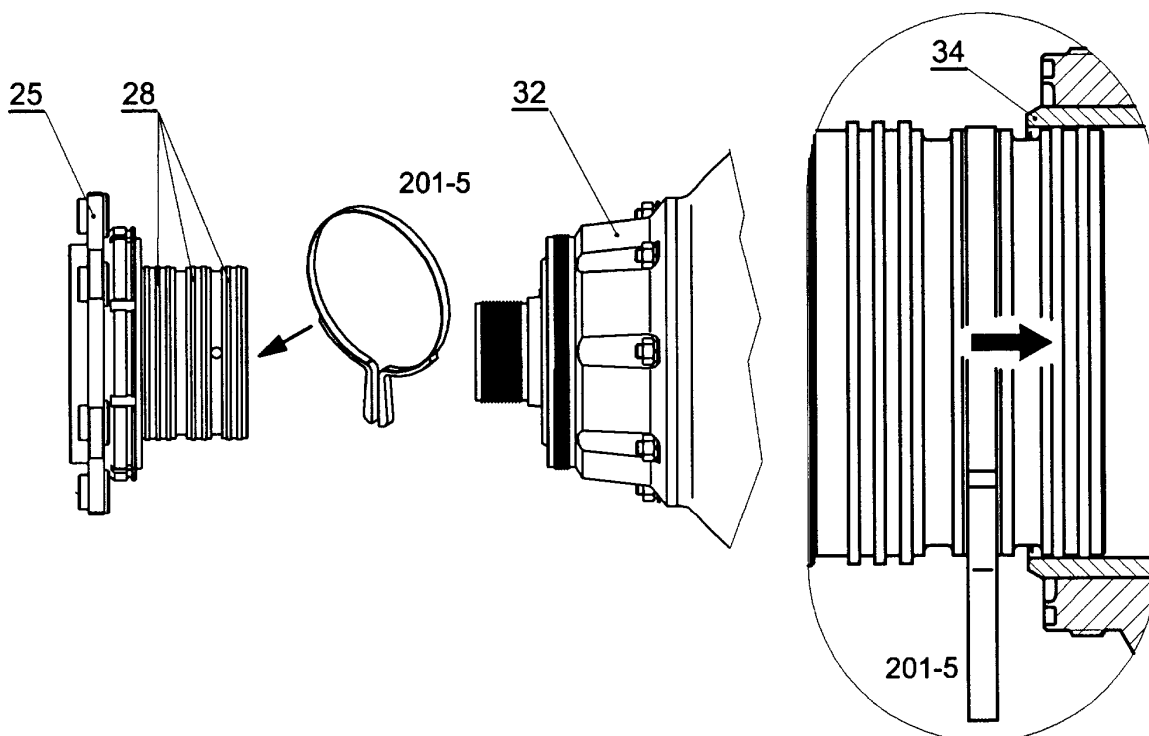

Fig.213 Rotor of P 7900.01distributor installation
- (7) Before installation rotor flange (25) check if the wire (37) sliding nut (36) and GUFERO (29) are fitted with the flange and if sealing O-ring (27) is installed in the slot in the distributor.
- (8) Use bushing for oilsealing rings(201-5) installation for following after repair rotor installation
- (9) Install bushing (201-5) on the first ring pair (28) (see Fig. 213), press rings with it and replace both them by slight pressure to the rotor from the bushing to the sleeve (34). Install the bushing to another ring pair and using the same operation replace them to the sleeve (34). Repeat this operation with another pair and the last ring.